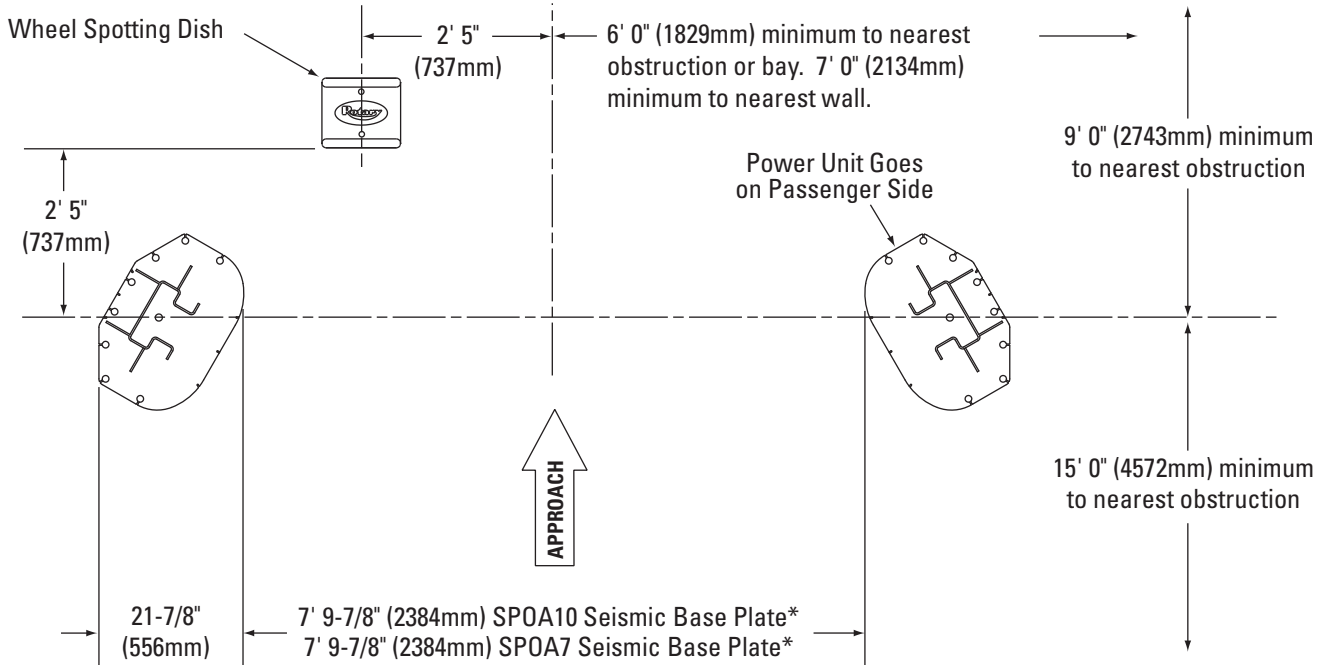

Fig. 1c
1. Lift Location: Use architects plan when available to locate lift. Fig. 1a, Fig. 1b, Fig. 1c, Fig. 1d, shows dimensions of a typical bay layout.